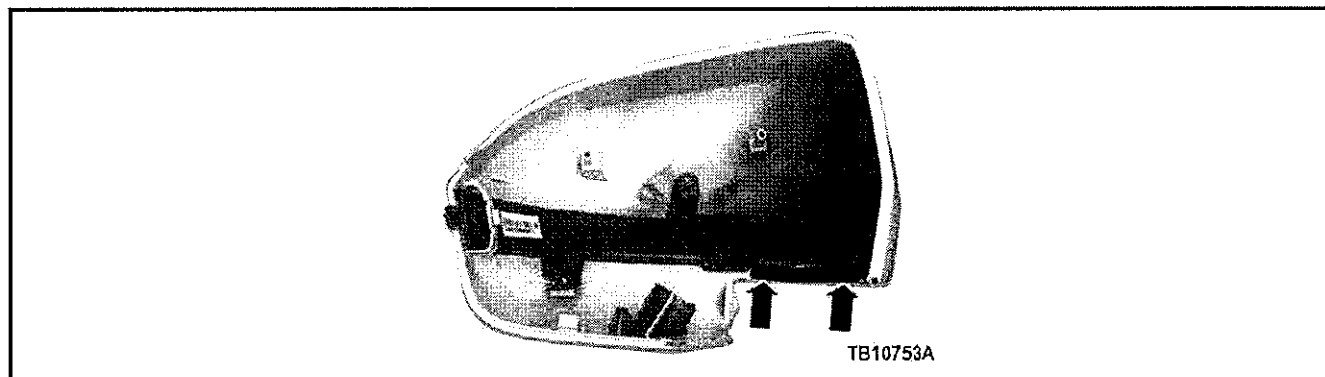

Figure 6 - Article 15-0135
8. Install foam seal tape. (Figure 6)